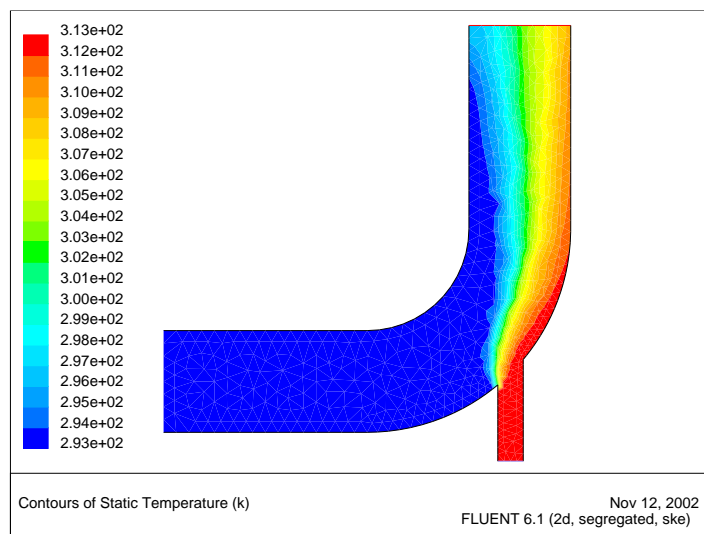

Figure 1.5: Predicted Temperature Distribution After the Initial Calculation
2. Display filled contours of temperature (Figure 1.5).
*The thermal spreading after the elbow has been reduced from the earlier prediction (Figure 1.5).*